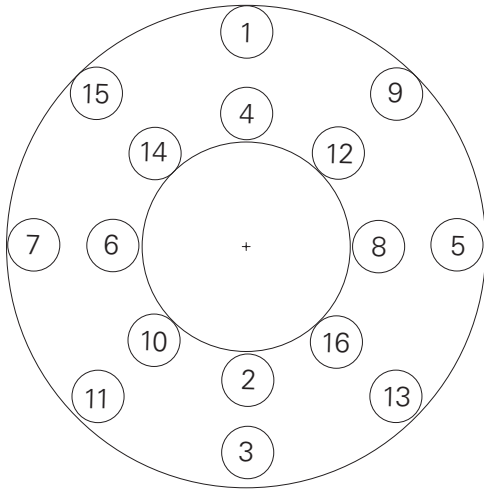

Figure 15
- For the first 16 screws, bring the initial torque of each screw up to 33% of the torque value shown in Table 2 using the tightening sequence shown in Figure 15. Install and torque the remaining screws in any reasonable crosswise pattern to 33% of the torque value shown in Table 2.
- Repeat the sequence of torque tightening on the first 16 screws as shown in Figure 15 and bring each screw up to 66% of the torque value shown in Table 2. Torque the remaining screws in any reasonable crosswise pattern to 66% of the torque value shown in Table 2.
- Repeat the sequence of torque tightening on the first 16 screws as shown in Figure 15 and bring each screw up to 100% of the torque value shown in Table 2. Torque the remaining screws in any reasonable crosswise pattern to 100% of the torque value shown in Table 2.